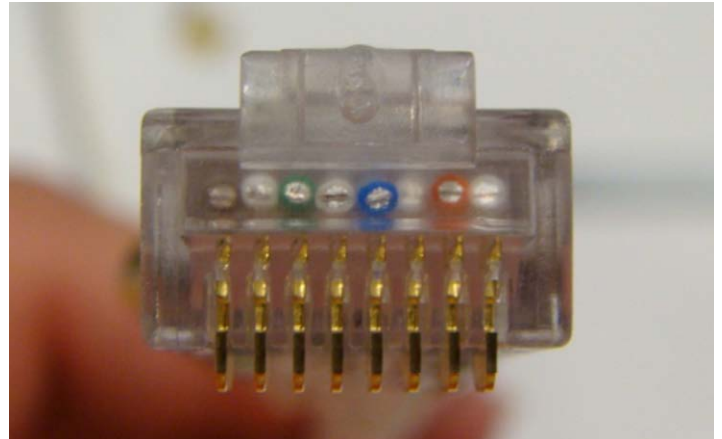

Figure 24: Seating the load bar
15. Seat the load bar into the connector body plug until the wires come into contact with the inside surface of the plug (Figure 24).